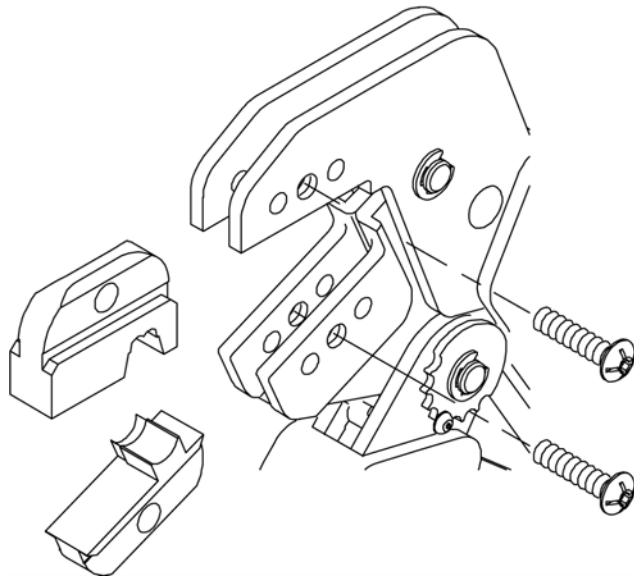

Figure 2
2. Orient the die assembly with the hand tool as shown in Figure 2.